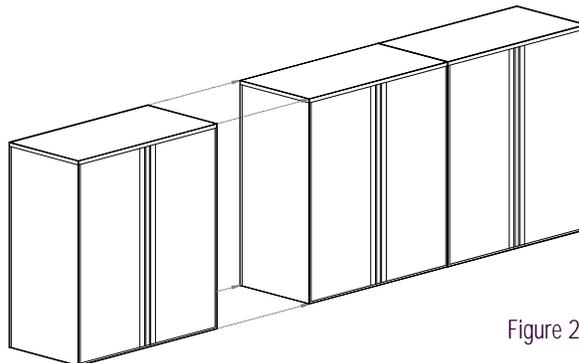

Figure 2
1. Multiple cabinets should be ganged together/or to adjacent lateral files (see users guide for recommended installation of lateral files) (Figure 2).